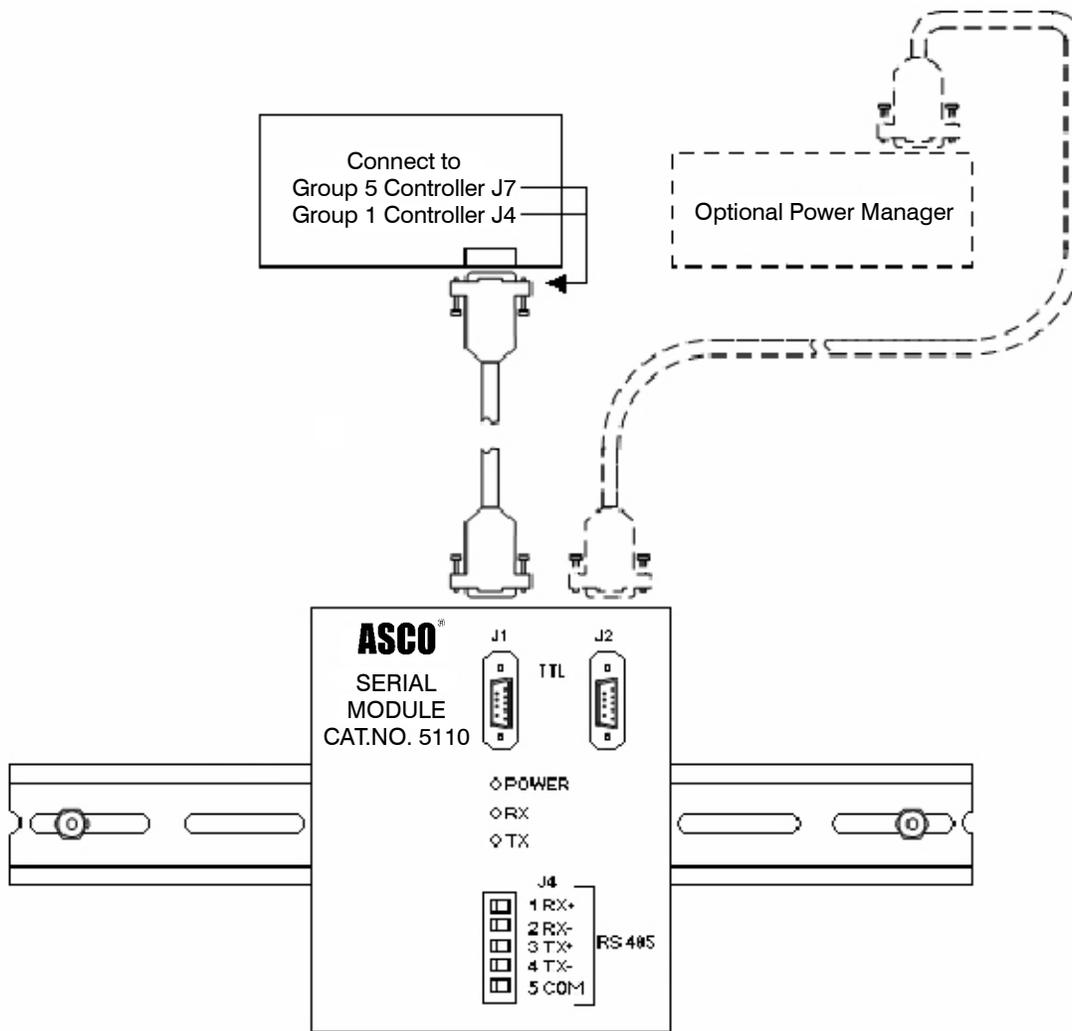

Figure 2. Serial Module connections to ATS Controller and Power Manager..
2. If a Power Manager is present, connect the 4-foot serial cable between Power Manager receptacle J5 and the Serial Module receptacle J2\* (see Figure 2).